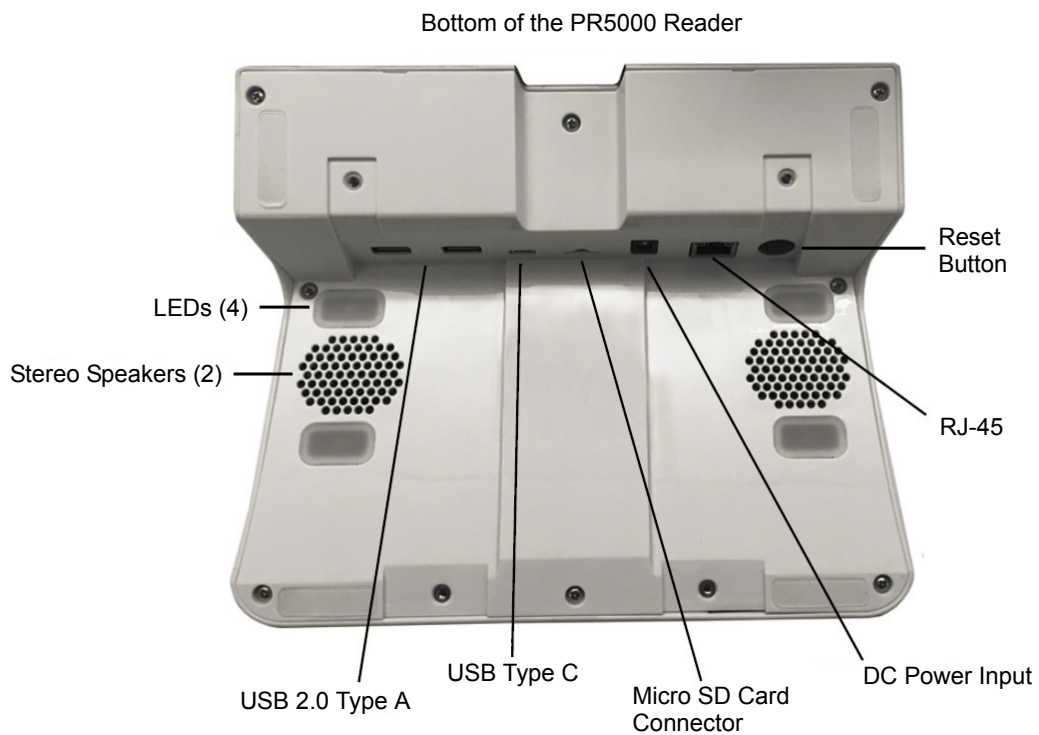

Figure 1-2 Functional Overview - Bottom
- 10 Connect cables to the PR5000. Refer to Figure 1-2.